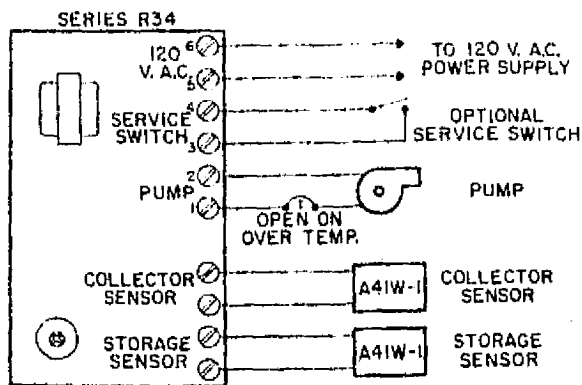

Fig. 4 — Typical wiring diagram.
2. Check for proper voltage (120 V. A.C. ) supply to terminals 5 and 6, see Figure 4.